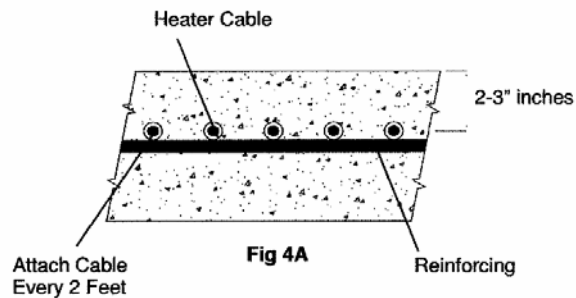

Fig 4A
8. When layout is finalized, fasten the heating cable to the reinforcing with metal wire ties. Do not over tighten when using wire ties to avoid possible damage. Secure heater to reinforcing as shown in **Figure 4A**.